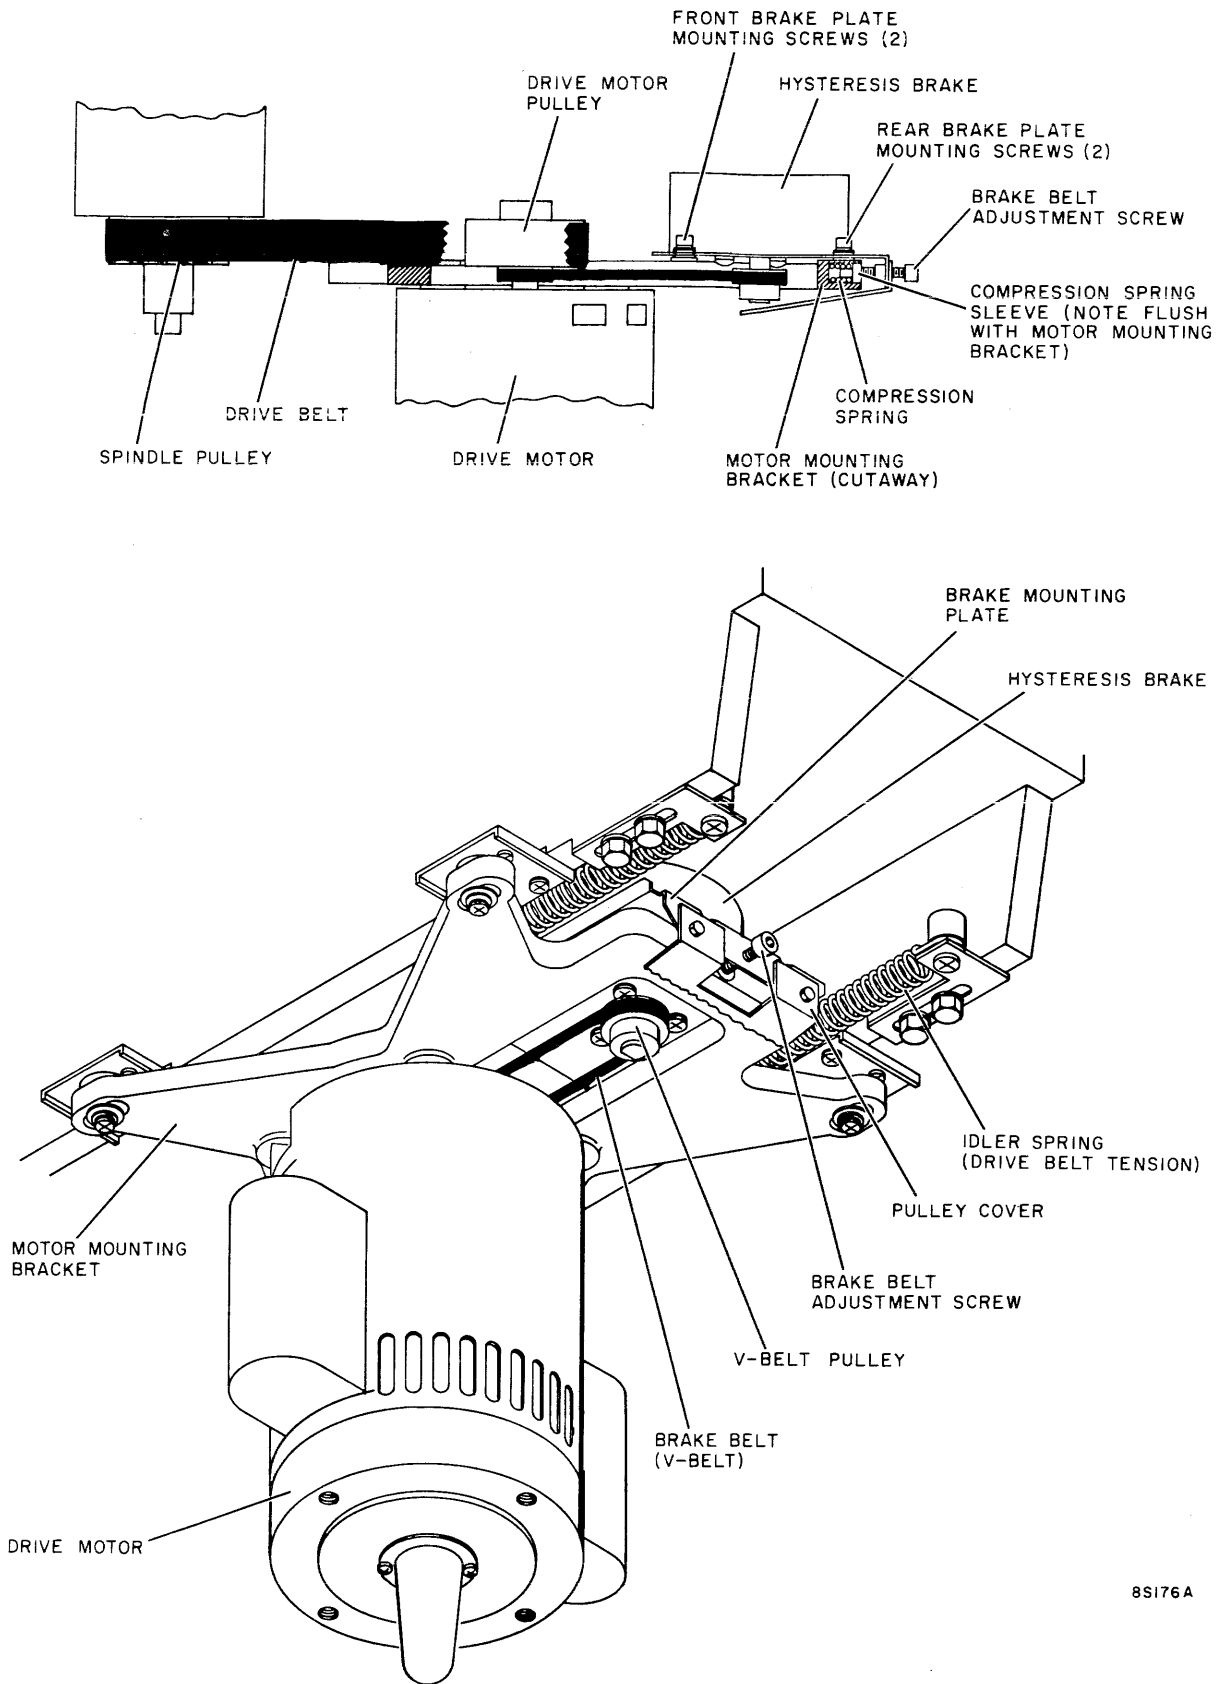

Figure 3-19. Brake Belt Adjustment
3. Remove two idler springs (drive belt tension springs): This allows drive motor and brake assembly to move forward to facilitate drive belt removal. Refer to figure 3-19. On older drives, the second tension spring is located towards the top of the frame, on the right side, in the middle of the drive.
3. Loosen two rear brake plate mounting screws (refer to figure 3-19): From rear of drive, using an Allen wrench, loosen (do not remove) two rear brake plate mounting screws by turning counterclockwise.